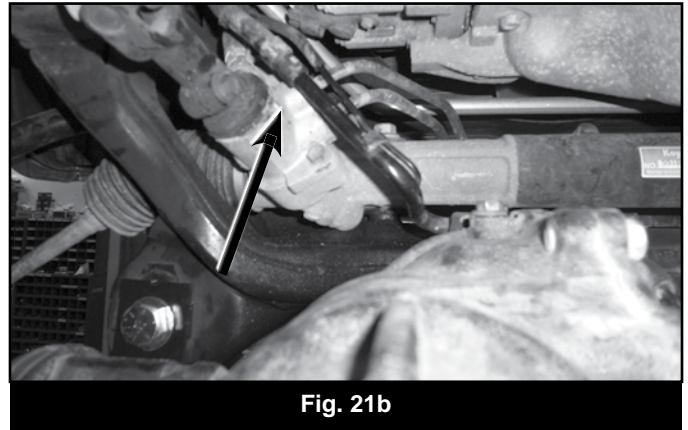

**Fig. 20**
39. Attach the differential to the rear cross member with  $\frac{9}{16}$ " x  $4\text{-}1/2$ " bolt, washer, and nut (#664) on the passenger's side. Use factory nut to attach the differential to the cross member on the driver's side rear mount. (Fig 20)